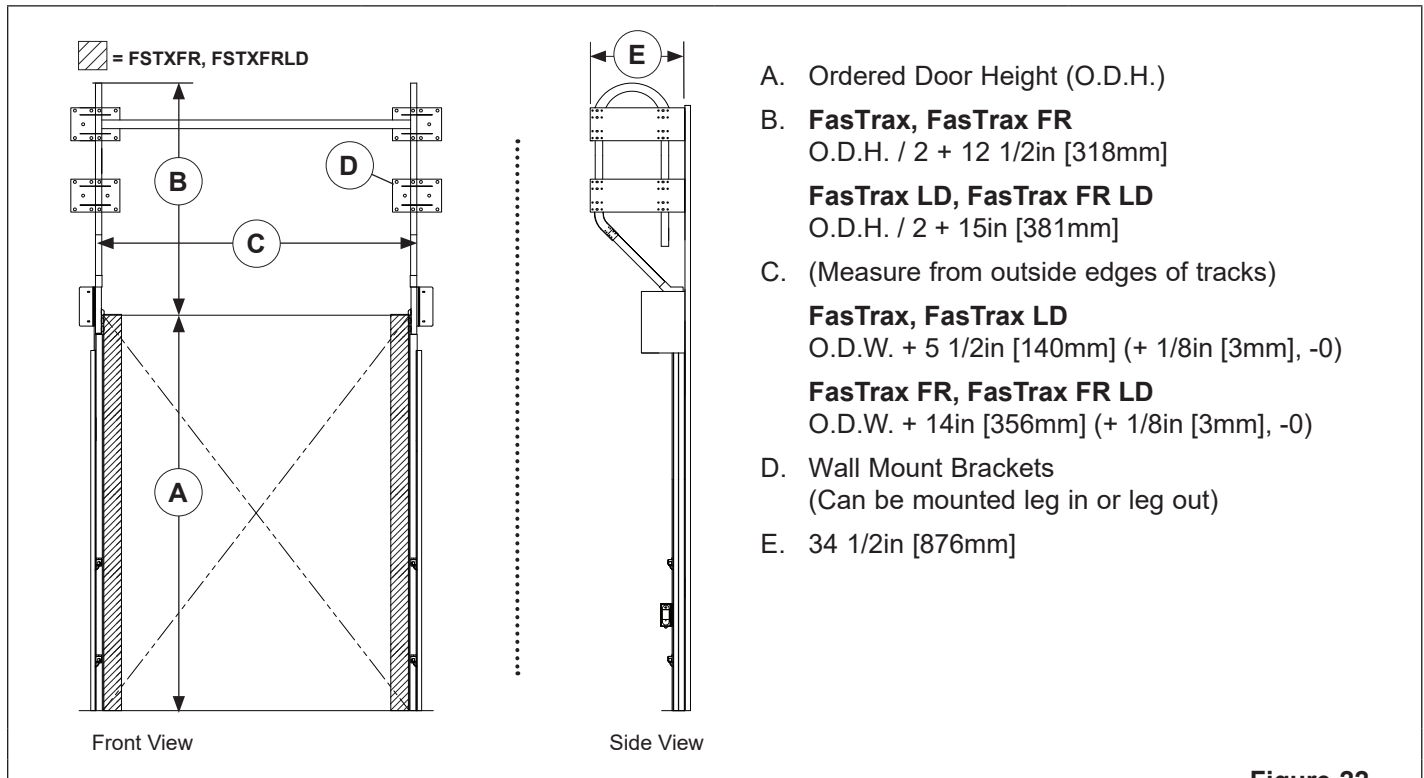

Figure 22
1. The proper radius (H) is already assembled to the lower track.
2. Locate the 2 pieces of upper track (G) (26 3/4in [680mm] or 23in [584mm] for large driver). Slide end of upper track: FasTrax/FasTrax FR: 26 3/4in [680mm] FasTrax LD/FasTrax FR LD: 23in [584mm] into the lower track splice connector. Pilot holes (.201Ø x 1 1/4in [5mm x 32mm] deep) (K) MUST be pre-drilled into lower track radius. Install 4 lag screws per location.
3. Locate the 2 45° radius pieces (F) and slide onto the first piece of upper track. Locate the 2 middle length pieces of upper track and slide into the 45° radius. Use self drill/tap screws (L) in aluminum track. Fasten 4 places in each location.
4. Plumb track in both directions and fasten to wall mount bracket (E) using self drill/tap screws (J). Attach 180° radius (B) to the upper track and fasten to the wall mount bracket. See dimension (B) of **"Figure 22" on page 24** for top of 180° radius.
5. Locate the 2 longest remaining pieces of upper track (D.O.H. / 2) - 26in [660mm]. Slide end of upper track (A) into the 180° radius, level, plumb and fasten to wall mount bracket using self drill/tap screws.
6. Place mounting bracket (D) in position against the radius and upper track and fasten using self drill/tap screws.
7. Attach spreader bar (C) between wrap back brackets.